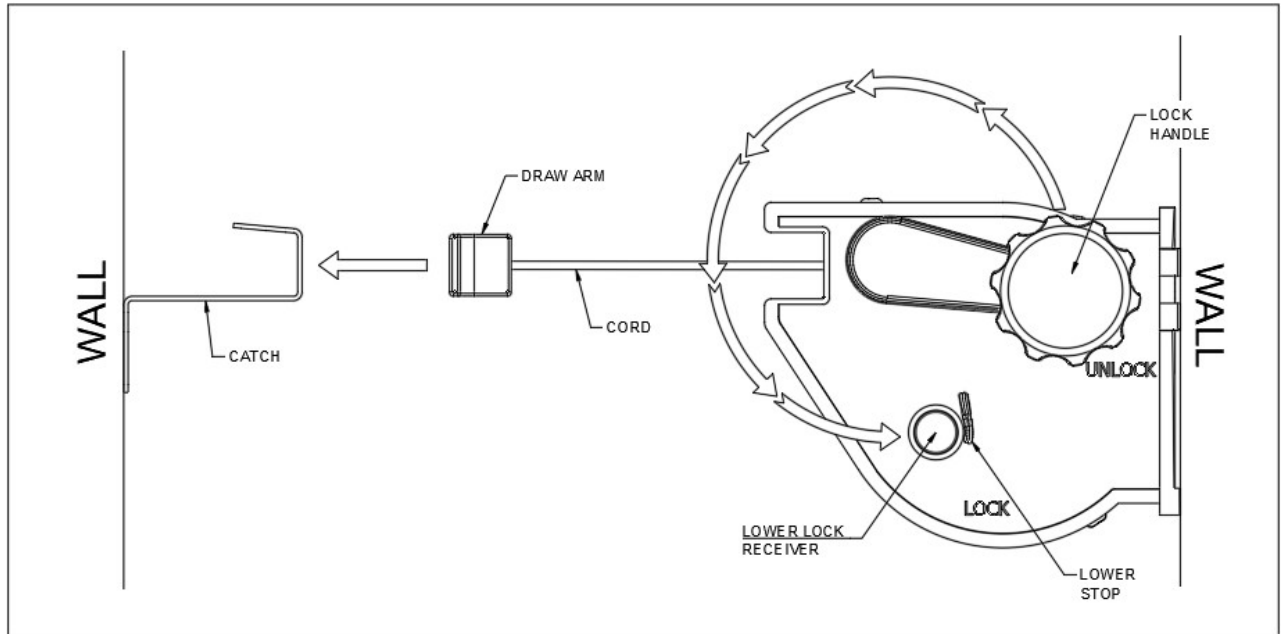

Fig 5. To Extend.
- The Retract Away Plus is now locked and ready to use. See Fig 5 below.